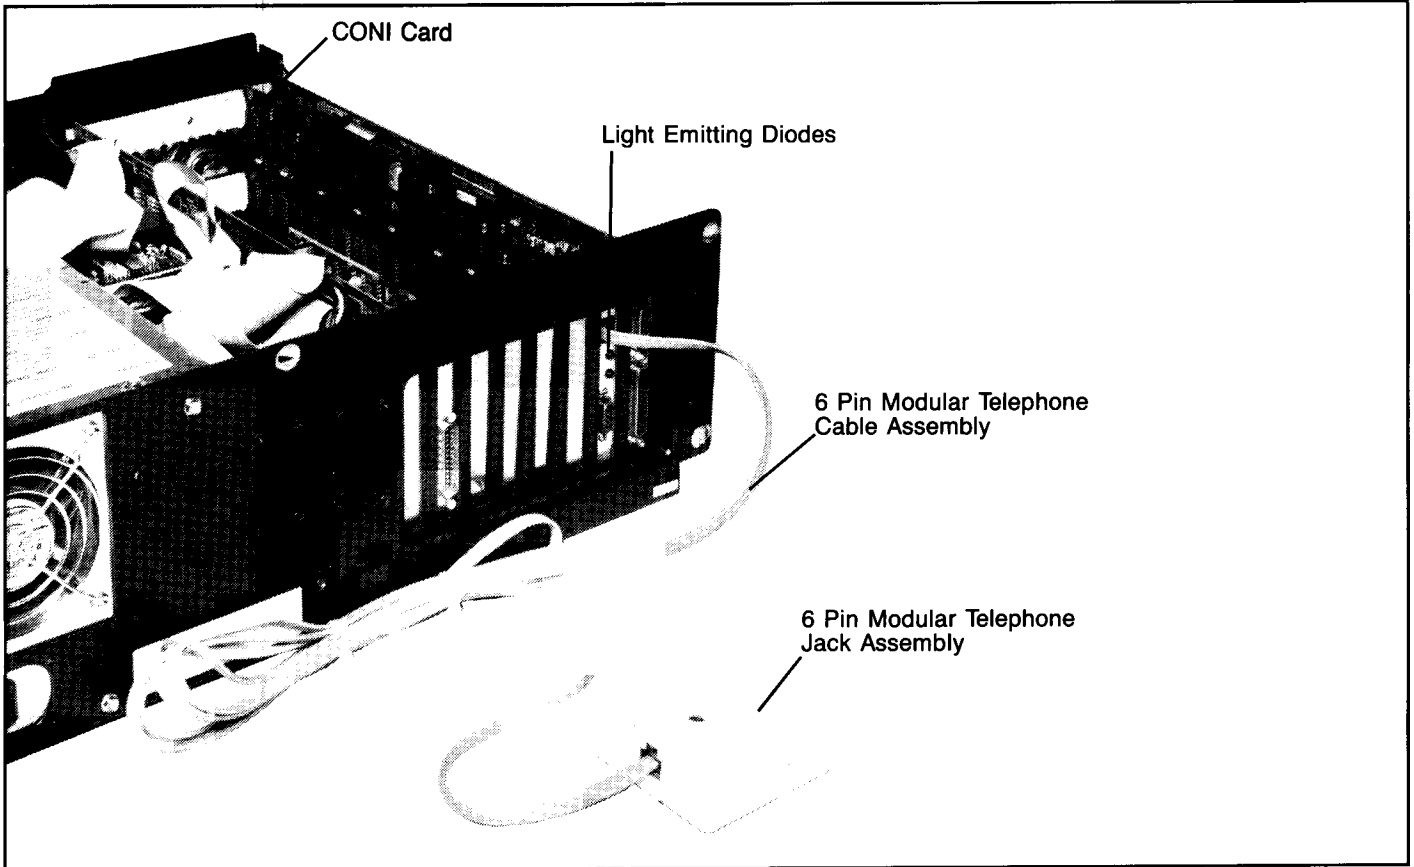

Fig. 1 CONI Card installed in a personal computer
The CONI has two red Light Emitting Diodes (LED's) visible from the back of the PC (see Fig. 1). These LED's are lit when data communications is occurring on the IMPACC network.
1. One standard 6-pin modular telephone cable assembly with a plug at each end. (Fig. 1)